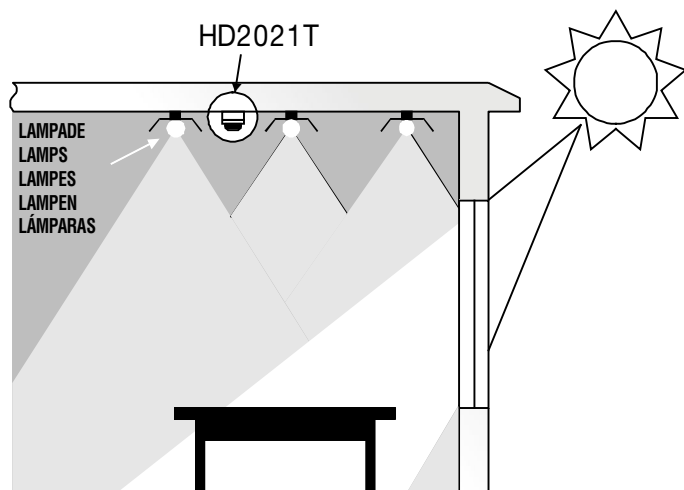

fig. 2
The sample below shows the installation of HD2021T illuminance transmitter monitoring lamps intensity. For this kind of application, HD2021T transmitters are generally installed on ceilings, close to the area where illuminance needs to be monitored (figure 2). Through a reference Luxmeter (ex. HD2102.1(2) with probe LP471 PHOT) previously placed in the operating area, we work on HD2021T potentiometer until we get to the desired reference value. HD2021T output is able to control several adjustable feeders at the same time.